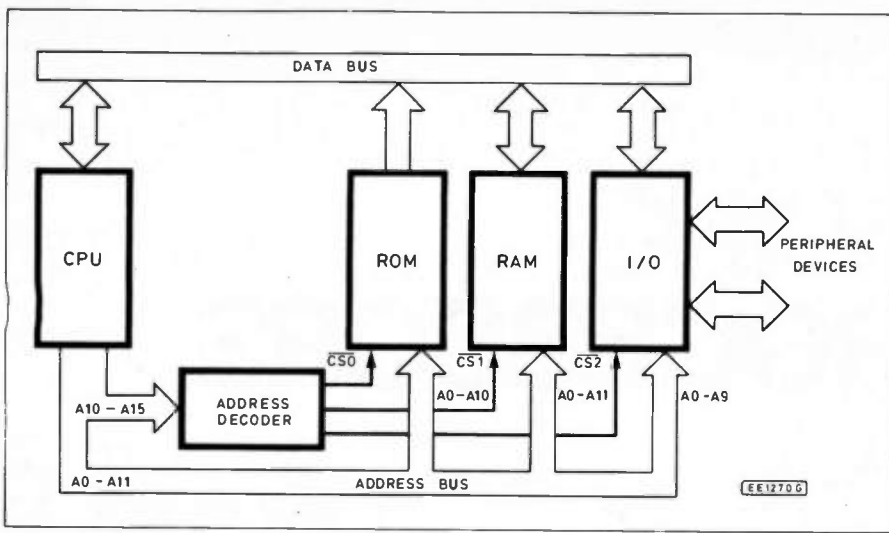

Fig. 6.1. Architecture of a representative microcomputer using memory mapped I/O.
Table 6.1. Truth table for the address decoder in Figure 6.1
The architecture of a representative microcomputer using memory-mapped I/O is shown in Fig. 6.1. Note that the six most significant addresses (A10 to A15) are fed to an address decoder, the outputs of which are used to drive the active-low chip select (CS) lines of the ROM, RAM, and I/O devices. The I/O device, for example, is selected (enabled) whenever CS2 goes low. The address decoding is, of course, arranged so that only one of the chip select lines goes low at any time. The action of the address decoder can be explained using Table 6.1.
Refer to Fig. 6.1 and Table 6.1.
The architecture of a representative microcomputer using port I/O is shown in Fig. 6.1. This system is a little more complex than its memory mapped counterpart and it is important to note that the processor's \overline{MREQ} and \overline{IOREQ} control signals are fed to the address decoders and are used in the production of the ROM, RAM and I/O block chip select sig-